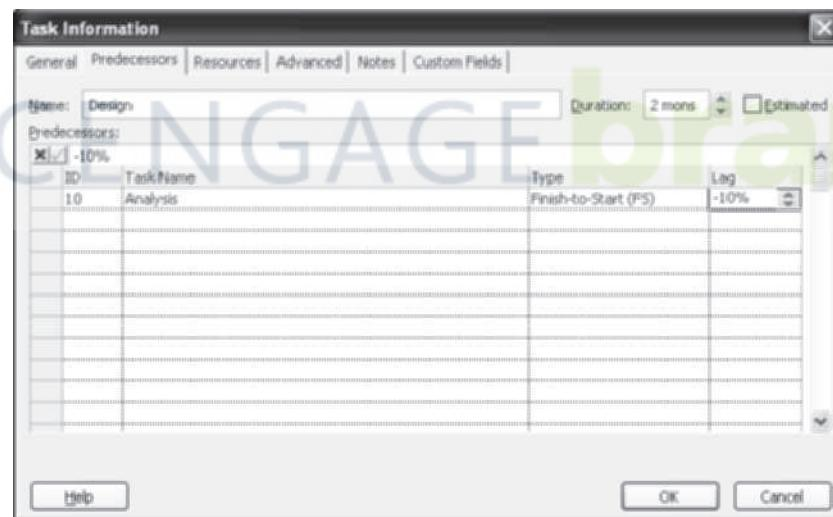

FIGURE A-28 Adding lead or lag time to task dependencies
2. Enter lead time for Task 11. Type **-10%** in the Lag column, as shown in Figure A-28. Click **OK**. You could also type a value such as **-5d** to indicate a five-day overlap. In the resulting Gantt chart, notice that the bar for this task has moved slightly to the left. Also, notice that the project completion date has moved.